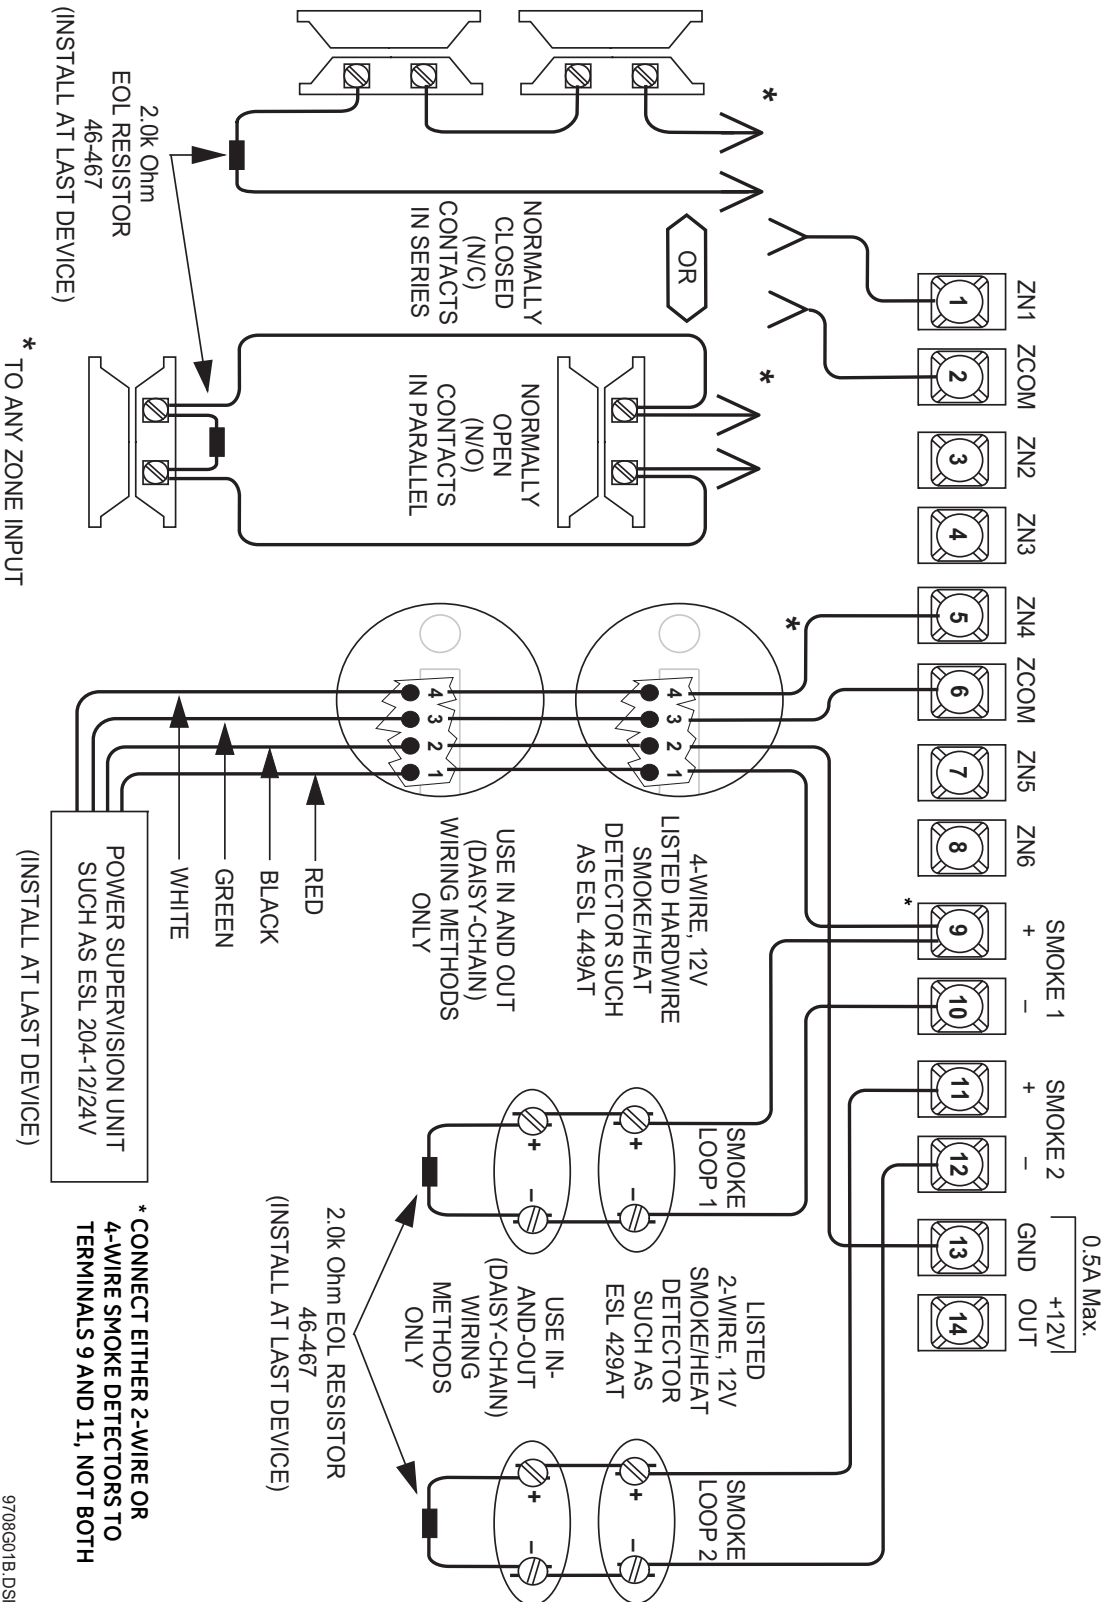

Figure 5. 82 Input Expansion SnapCard Wiring Diagram
Refer to Table 1 for a description of each SnapCard terminal. Terminals are numbered from left to right. Figure 5 (pg. 3) illustrates how to connect detection loops/devices to the SnapCard.
2. Wire each input device or smoke detector as shown in Figure 5. For all Concord panels, connect up to 10 two-wire smoke detectors per loop; for Advent panels, connect up to 20 two-wire smoke detectors per loop. Compatible smoke detectors include:
3. Install the EOL resistor as shown in Figure 5.